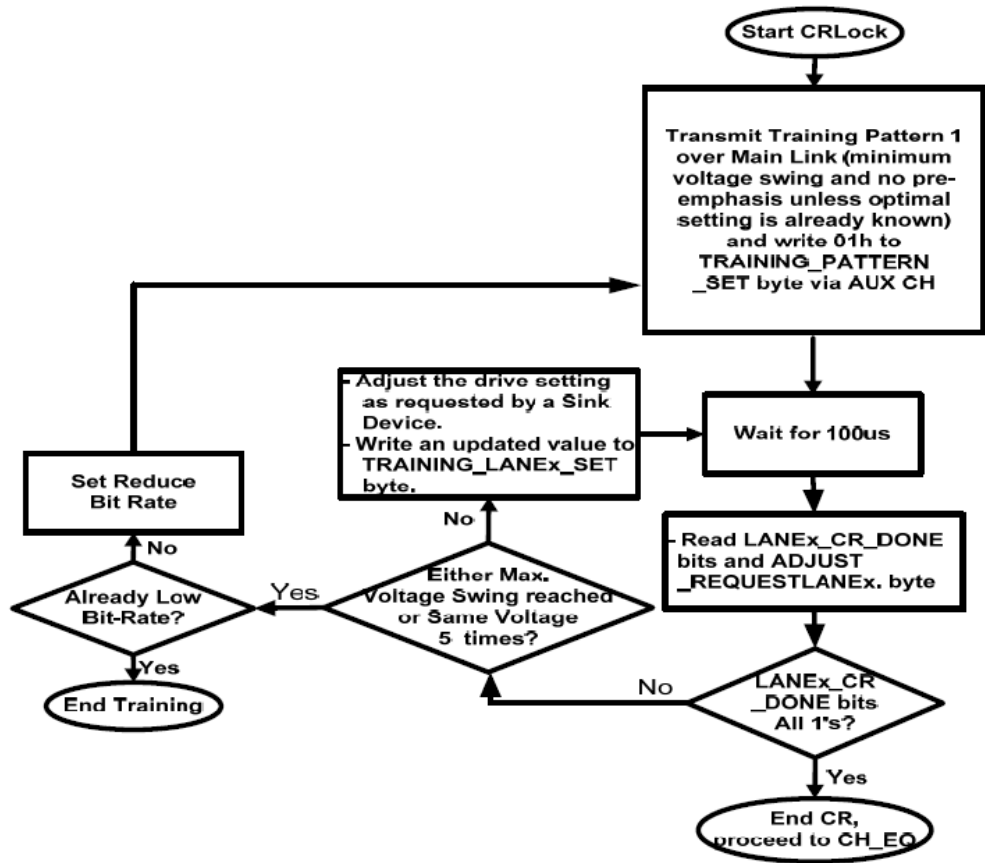
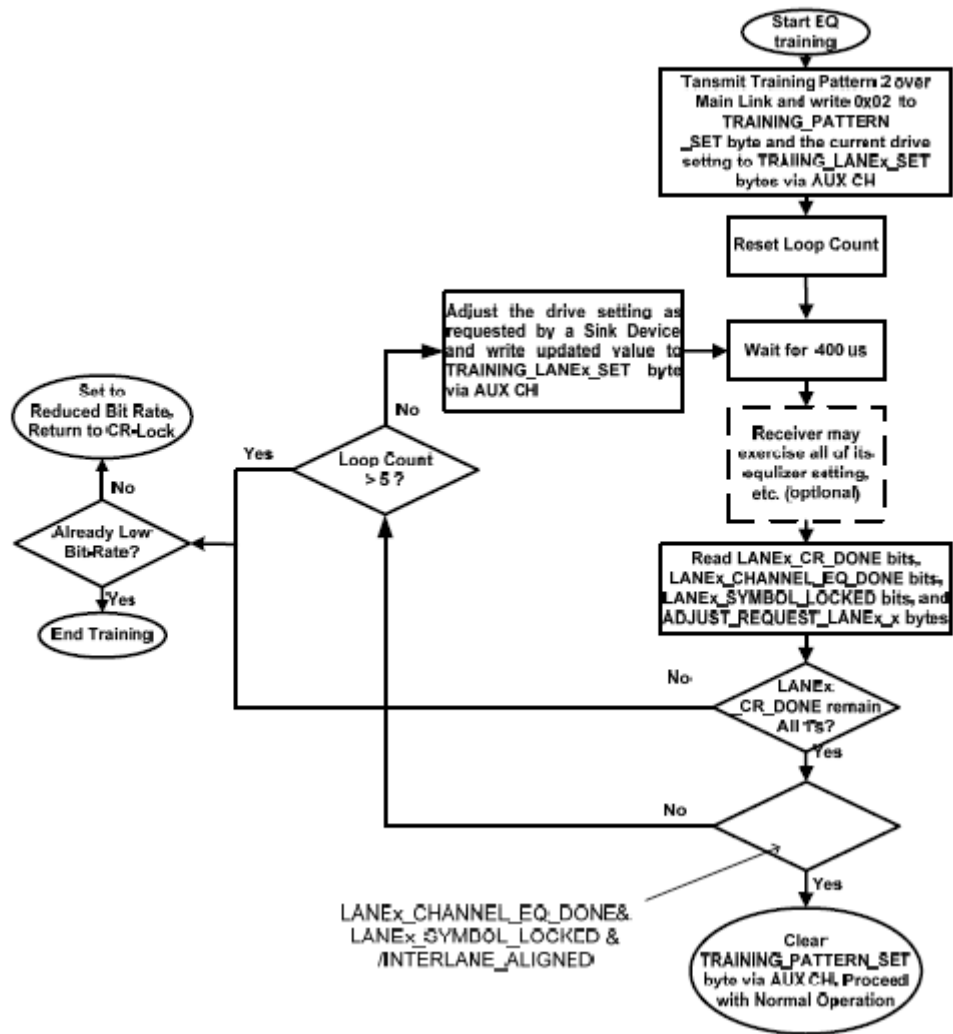

Figure 274 Clock Recovery Sequence
Figure 275 Clock Equalizer Sequence
- k Source reads LANE0_1_STATUS, LANE2_3_STATUS and LANE_ALIGN__STATUS_UPDATED. Because these registers are already set in a previous step, the source exits the Clock Recovery Sequence for Link Training (Figure 274) and goes to the Channel Equalizer sequence for Link Training (Figure 275).